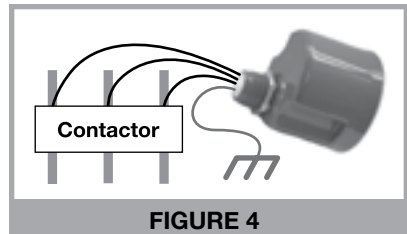

FIGURE 4
1. Install the lightning arrester and connect line leads to the line side of the contactor as shown in Figure 4.